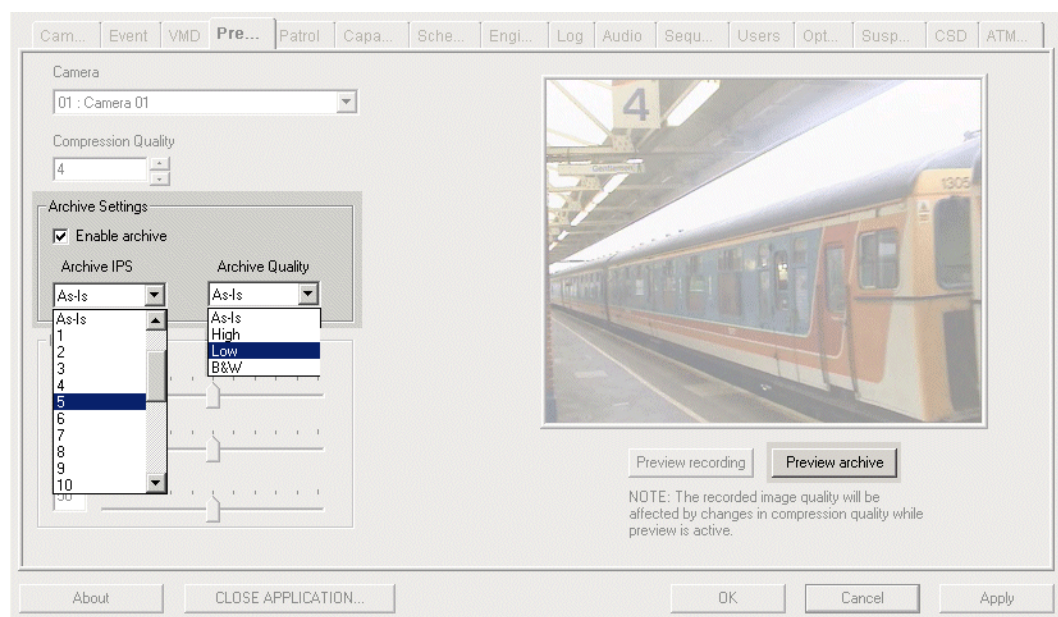

Figure 12-19: Configuring Archive settings
1. Select the **Preview** tab of the Configuration Console as shown in Figure 12-19.